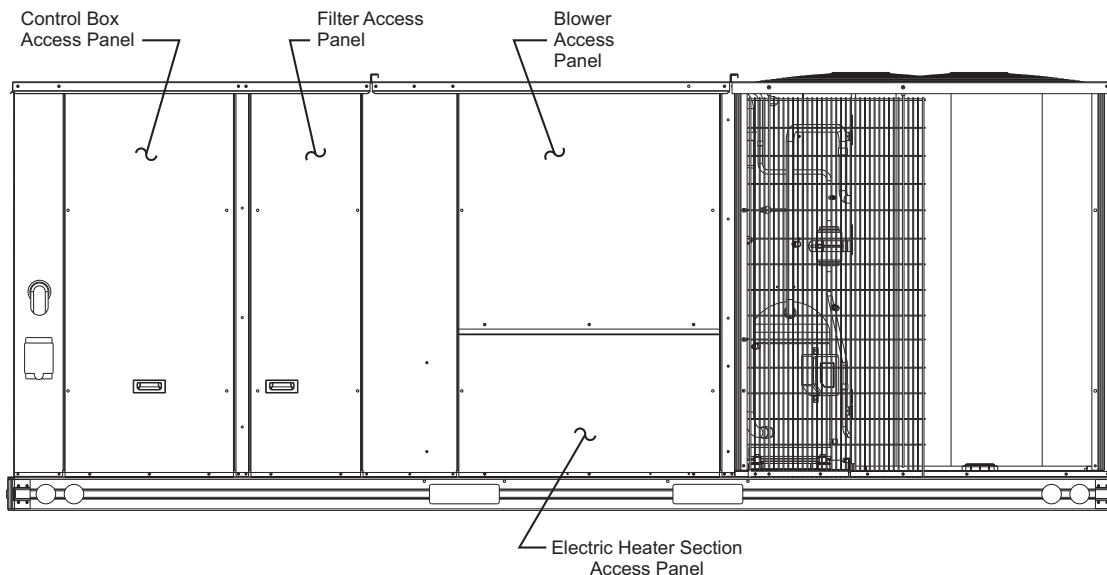

Fig. 1 - Typical Unit – Access Panel Locations
2. Remove electric heater section access panel, control box access panel, filter access panel, and blower access panel from base rooftop unit. (See Fig. 1.)